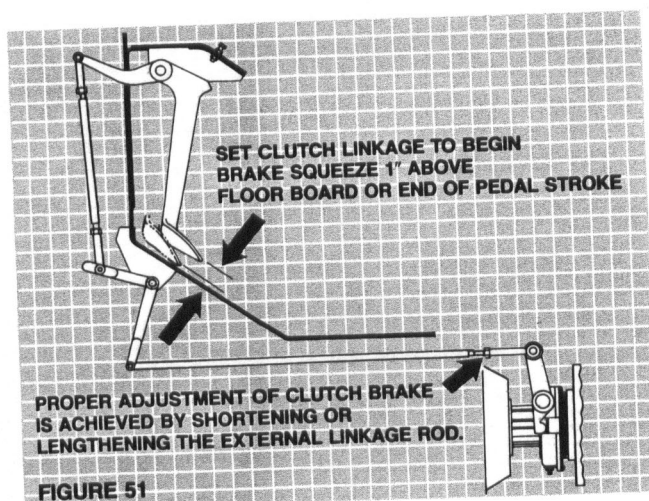

FIGURE 51
1. Clutch brake "squeeze" (increased resistance) must occur 1" above floor boards. This adjustment is made by shortening or lengthening the external linkage rod. (Fig. 51)